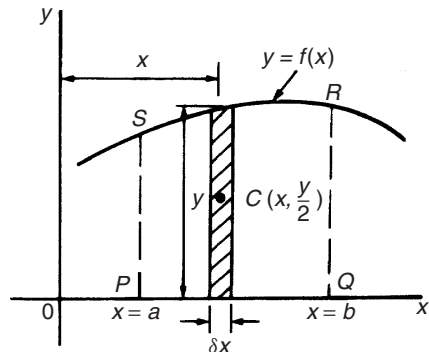

Figure 7.2
- (i) Figure 7.2 shows an area  $PQRS$  bounded by the curve  $y = f(x)$ , the  $x$ -axis and ordinates  $x = a$  and  $x = b$ . Let this area be divided into a large number of strips, each of width  $\delta x$ . A typical strip is shown shaded drawn at point  $(x, y)$  on  $f(x)$ . The area of the strip is approximately rectangular and is given by  $y\delta x$ . The centroid,  $C$ , has coordinates  $(x, \frac{y}{2})$ .